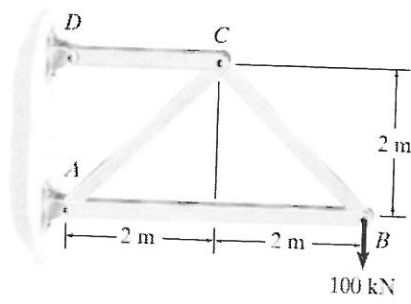

Figure Q4: Space frame carrying at end point load
- 4.2 The members of a truss shown in Figure Q4 are all made of steel with $E = 209$ GPa. Each member has a cross sectional area of 400 mm². Use Castigliano's second principle to determine the vertical displacement at point C and B. [20]